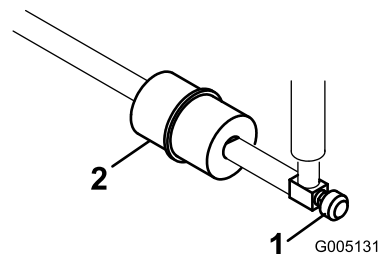

Figure 46
An in-line filter is incorporated into the fuel line between the fuel tank and carburetor (Figure 46). Be sure the arrow on the filter is pointing away from the fuel tank.
- Close the fuel-shutoff valve, loosen the hose clamp on the carburetor side of filter, and remove the fuel line from the filter (Figure 46).
- Place a drain pan under the filter, loosen the remaining hose clamp and remove the filter (Figure 46).